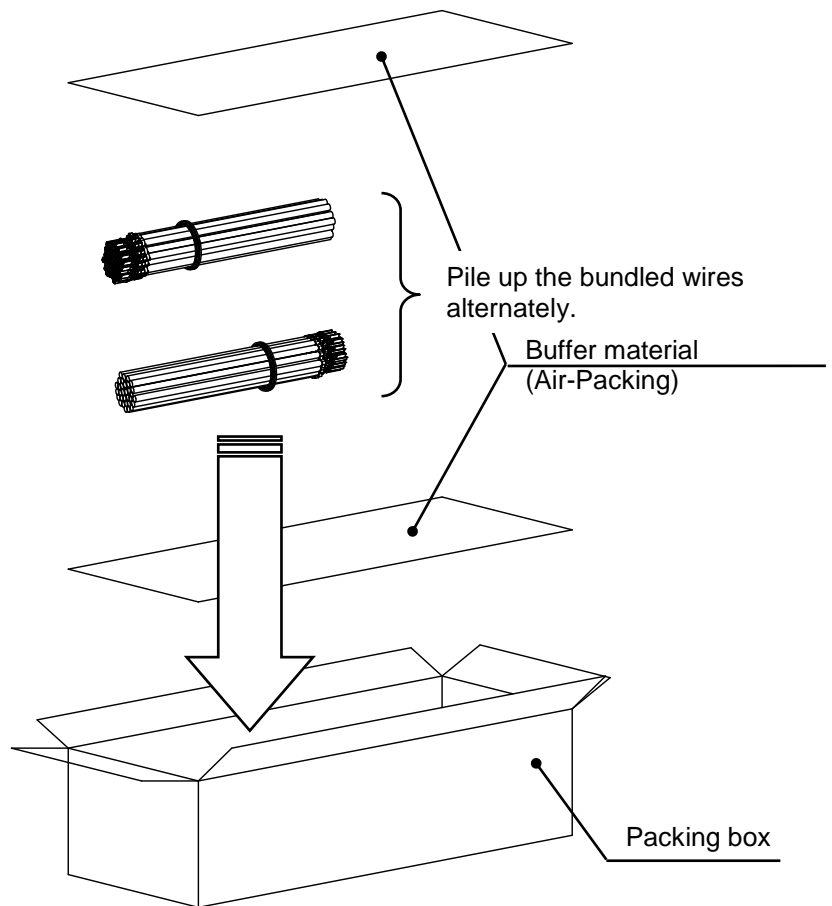

Fig. 5-2
- ※When packing bundled harnesses after processing in package box, in order for force not to be applied to connector for a long period of time by piling up, please put product alternately (cross shape)in a fitting box. **(Fig.5-2)**
In order to avoid applying force to connector for a long period of time by stacking the wires, please lay buffer material. **(Fig.5-2)**